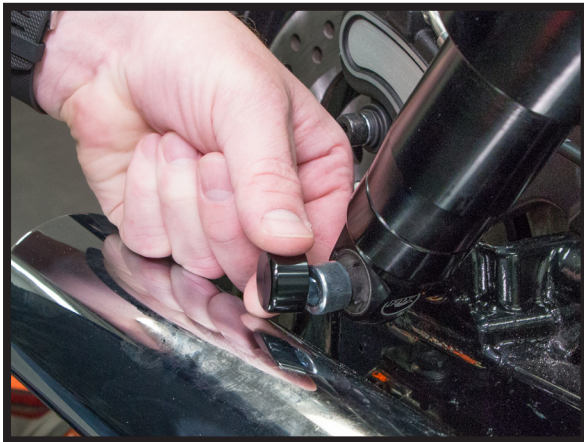

FIGURE 27
13. PUT THE INCLUDED BOLT CAP ON THE BOLT. YOU MAY NEED TO LUBRICATE THE INTERNAL O-RING WITH WATER TO ALLOW THE CAP TO SLIDE ON EASILY. (FIGURES 27, 28)